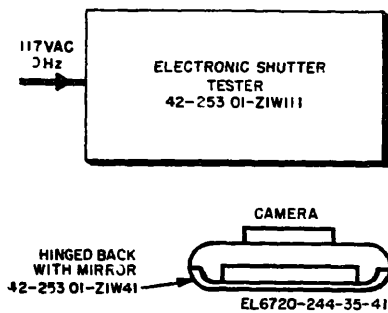

Figure 6-4. Setup for electronic shutter speed test, block diagram.
(1) Replace the camera hinged back with the hinged back and mirror, and position the camera housing on the resting plate of the electronic shutter tester as shown in figure 6-4. Fit the lens mounting flange over the opening in the electronic shutter tester.
(2) Secure the camera to the electronic shutter tester with the holding plate.
(3) Set the electronic shutter tester to 1 second. Wind the camera, set the shutter speed dial to 1 second, and release the shutter. The test in-